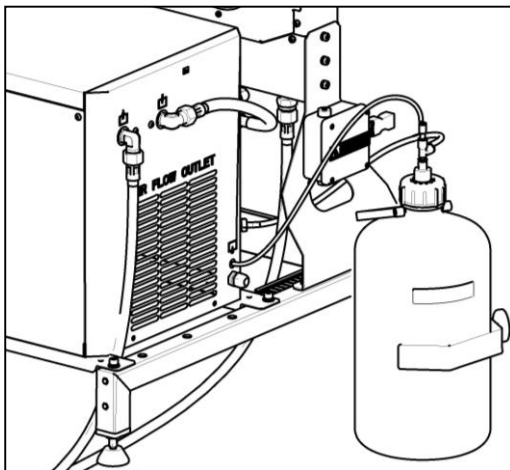

Fig. 8
- Connect the hoses from the water separator and the condensate drain from the dryer to connectors at the canister valves. (Fig. 8)